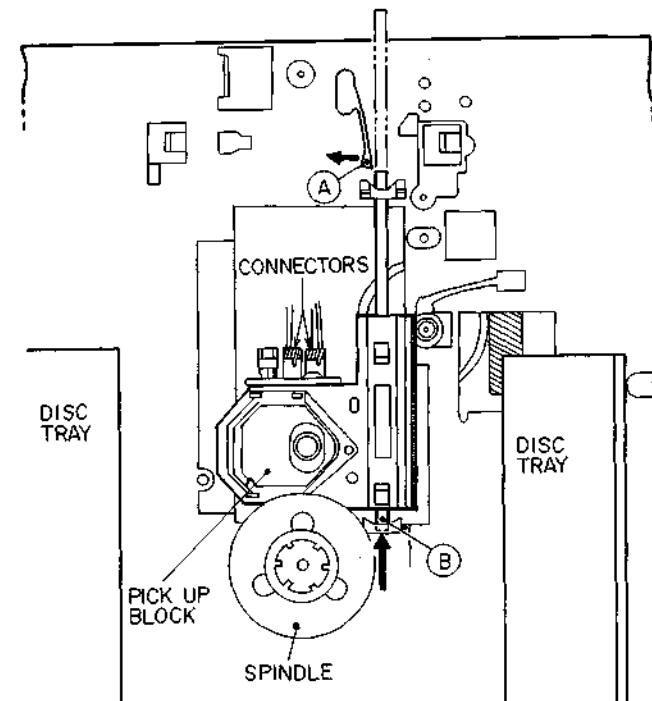

Fig. 5-3
- 1) Open the disc tray and disconnect the connectors on the pick-up block. (Refer to Fig. 5-3)
- 2) Push the Ⓐ part in a ← direction, at the same time, push the Ⓑ part (shaft) in a ← direction, then remove the PICK-UP BLOCK. (Refer to Fig. 5-3)
- 3) Reassemble in reverse order. (Refer to Fig. 5-3)